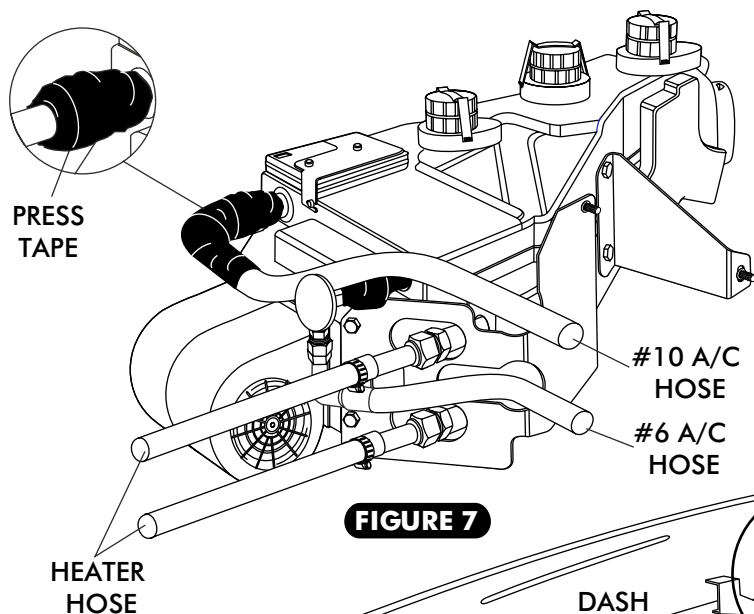
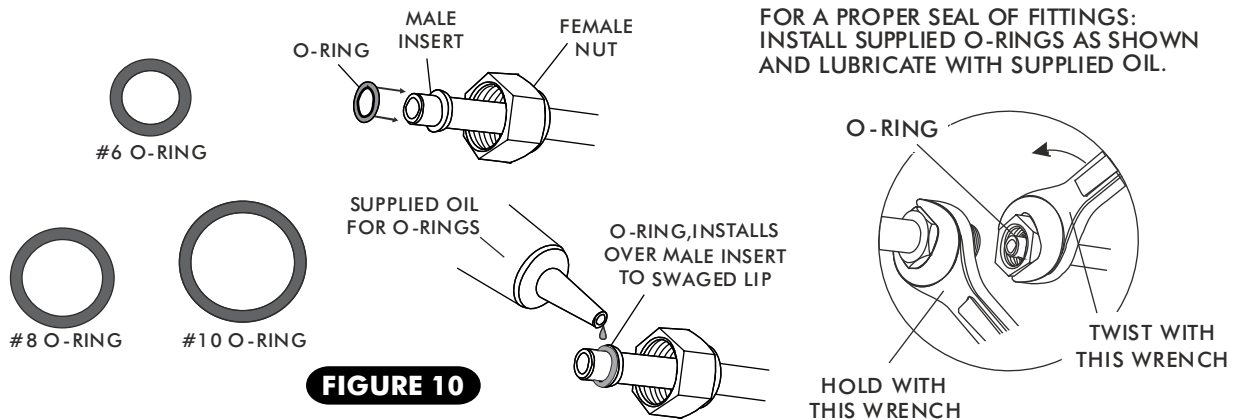
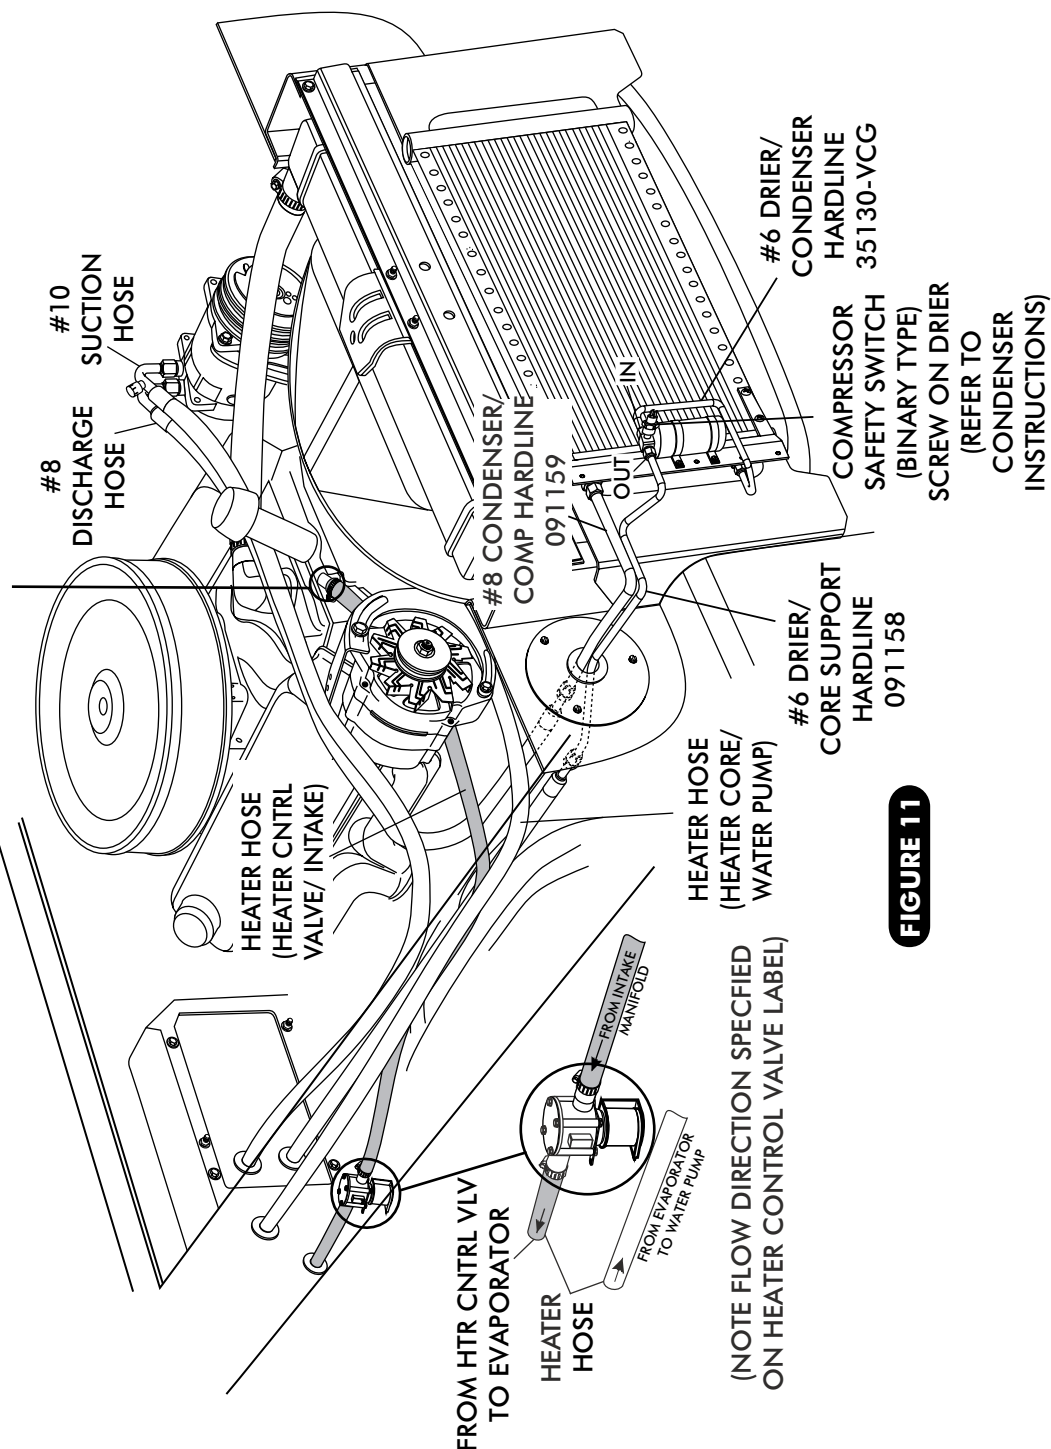
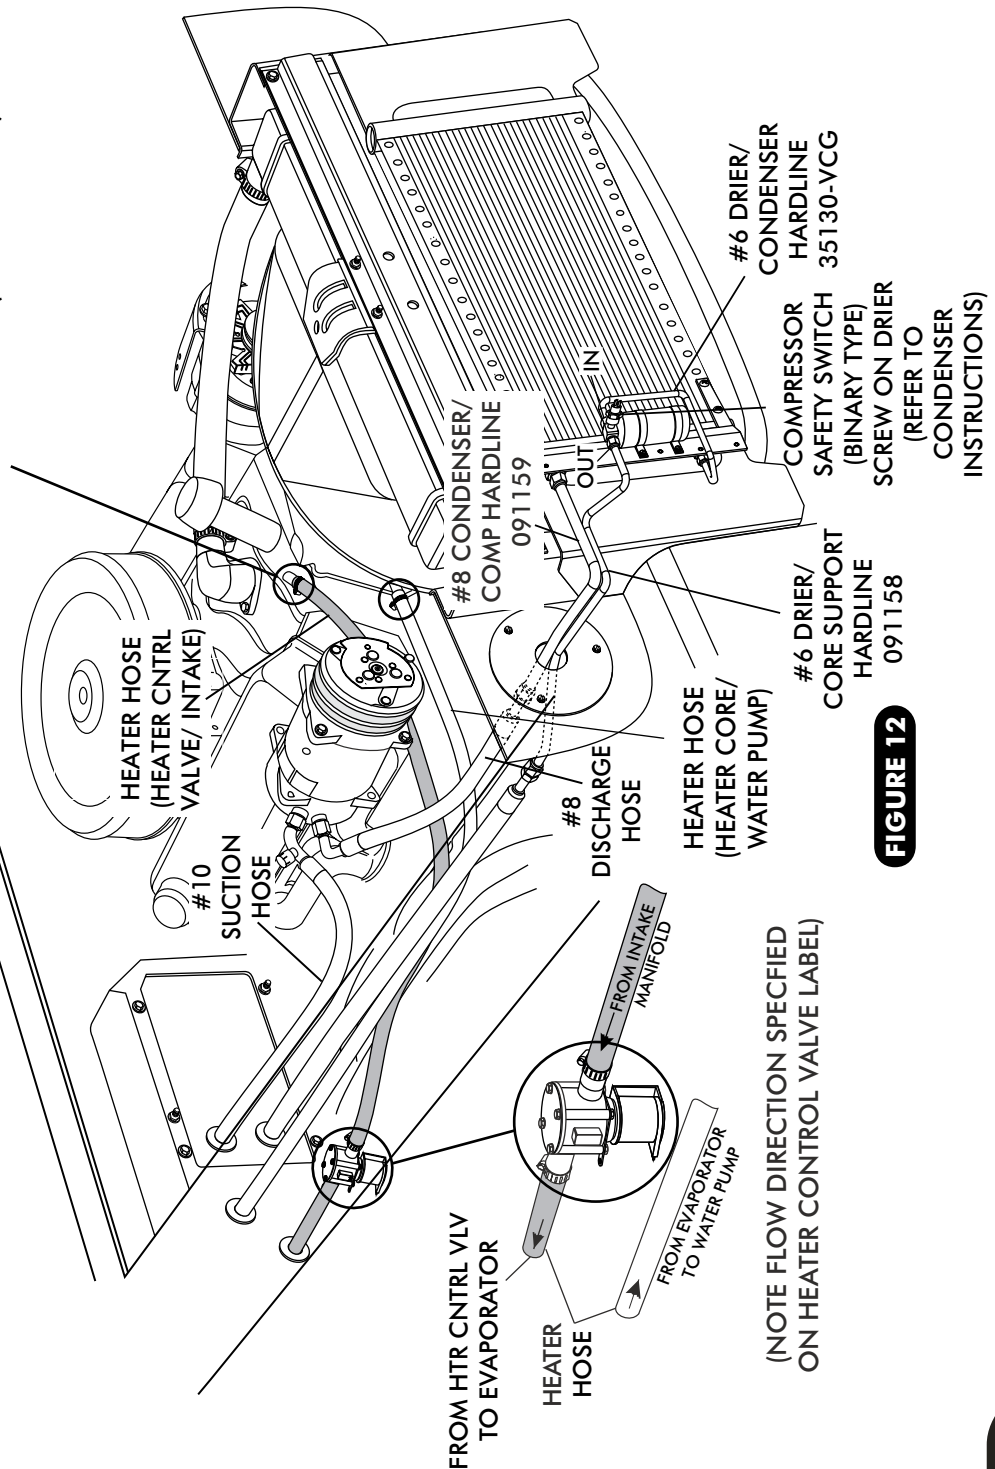

FIGURE 7
FIGURE 10
FIGURE 11
FIGURE 12
- ☐ ON A WORK BENCH INSTALL (2) HEATER FITTINGS WITH PROPERLY LUBRICATED O-RINGS. (SEE FIGURE 10, PAGE 12, AND FIGURE 6, PAGE 10.)
- ☐ LAY EVAPORATOR SUBCASE ON PASSENGER SIDE FLOOR BOARD. INSTALL A/C & HEATER HOSE ON EVAPORATOR AS SHOWN IN FIGURE 7, PAGE 11 AND HOSE INSTALLATION ON PAGE 13 AND PAGE 14.
- ☐ **(NOTE: WRAP THE #10 FITTING CONNECTIONS WITH PRESS TAPE. SEE FIGURE 7, PAGE 11.)**
- ☐ LOCATE THE #8 COMPRESSOR A/C HOSE. LUBRICATE (2) #8 O-RINGS (SEE FIGURE 10, ABOVE) AND CONNECT THE 90° FEMALE FITTING TO THE #8 DISCHARGE PORT ON THE COMPRESSOR. ROUTE THE STR FEMALE FITTING w/ 134a SERVICE PORT TO THE #8 CONDENSER HARDLINE COMING THROUGH CORE SUPPORT. SEE FIGURE 11 PAGE 13 AND FIGURE 12 PAGE 14. TIGHTEN EACH FITTING CONNECTION AS SHOWN IN FIGURE 10 ABOVE.
- ☐ LOCATE THE #10 COMPRESSOR A/C HOSE. LUBRICATE (2) #10 O-RINGS (SEE FIGURE 10, ABOVE) AND CONNECT THE #10 135° FEMALE FITTING w/134a SERVICE PORT TO THE #10 SUCTION PORT ON THE COMPRESSOR. ROUTE THE 135° FEMALE FITTING TO THE #10 EVAPORATOR. SEE FIGURE 11, PAGE 13 AND FIGURE 12, PAGE 14. TIGHTEN EACH FITTING CONNECTION AS SHOWN IN 10 ABOVE.
- ☐ LOCATE THE #6 EVAPORATOR A/C HOSE. LUBRICATE (2) #6 O-RINGS (SEE FIGURE 10, ABOVE) AND CONNECT THE STR FEMALE FITTING TO THE DRIER. ROUTE THE 90° FEMALE FITTING TO THE #6 EVAPORATOR. SEE FIGURE 11, PAGE 13 AND FIGURE 12, PAGE 14. TIGHTEN EACH FITTING CONNECTION AS SHOWN IN FIGURE 10, ABOVE.
- ☐ ROUTE A PIECE OF HEATER HOSE FROM THE WATER PUMP TO THE TOP HEATER FITTING OF HEATER CORE AS SHOWN IN FIGURE 7, PAGE 11 AND FIGURE 11 BELOW. SECURE USING HOSE CLAMPS.
- ☐ ROUTE A PIECE OF HEATER HOSE FROM THE INTAKE TO THE BOTTOM HEATER FITTING OF HEATER CORE AS SHOWN IN FIGURE 7, PAGE 11 AND FIGURE 11, BELOW. INSTALL HEATER CONTROL VALVE IN-LINE WITH INTAKE MANIFOLD (PRESSURE SIDE) HEATER HOSE, SECURE USING HOSE CLAMPS AS SHOWN IN FIGURE 11, BELOW. **NOTE PROPER FLOW DIRECTION.**
- ROUTE A PIECE OF HEATER HOSE FROM THE WATER PUMP TO THE TOP HEATER FITTING OF HEATER CORE AS SHOWN IN FIGURE 7, PAGE 11 AND FIGURE 12 BELOW. SECURE USING HOSE CLAMPS.
- ROUTE A PIECE OF HEATER HOSE FROM THE INTAKE TO THE BOTTOM HEATER FITTING OF HEATER CORE AS SHOWN IN FIGURE 7, PAGE 11 AND FIGURE 12, BELOW. INSTALL HEATER CONTROL VALVE IN-LINE WITH INTAKE MANIFOLD (PRESSURE SIDE) HEATER HOSE, SECURE USING HOSE CLAMPS AS SHOWN IN FIGURE 12, BELOW. **NOTE PROPER FLOW DIRECTION.**